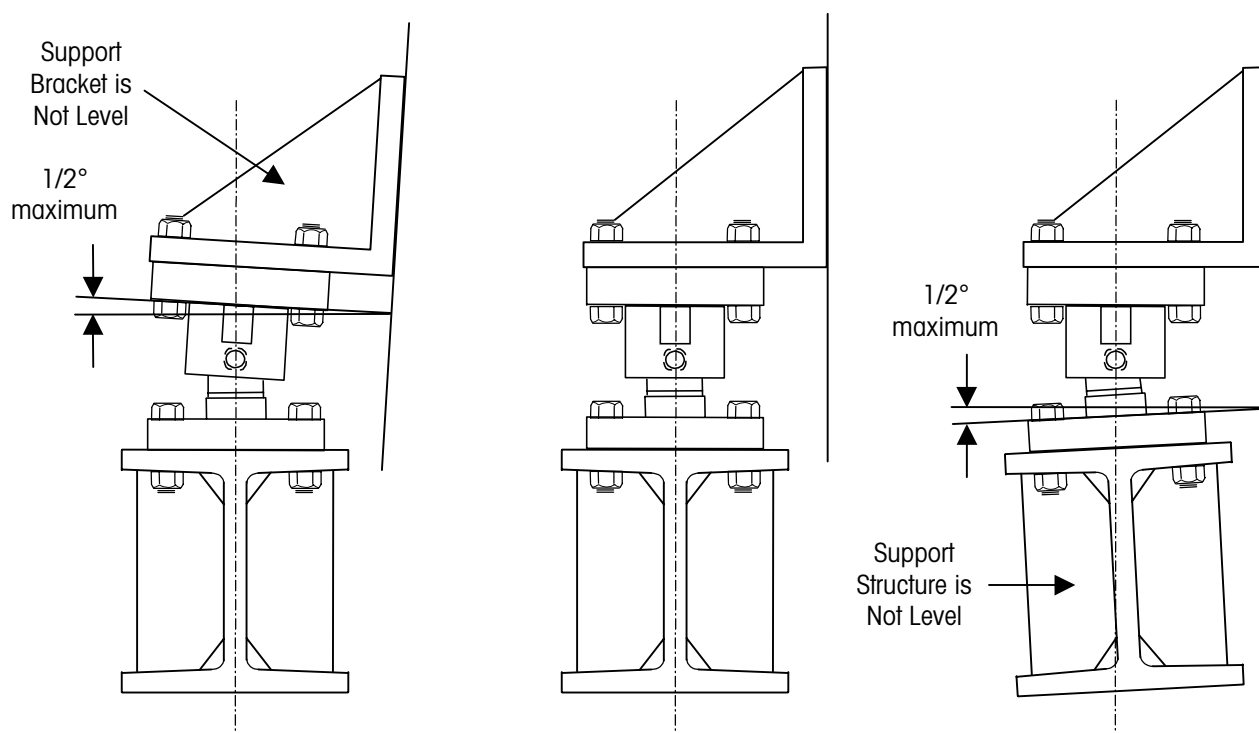

Figure 3-6: Maximum Amount that a Mounting Plate can be out of Level
2. Level each weigh module so that each mounting plate (top and base plate) is within $1/2^\circ$ of level in both longitudinal and lateral directions (see Figure 3-6).